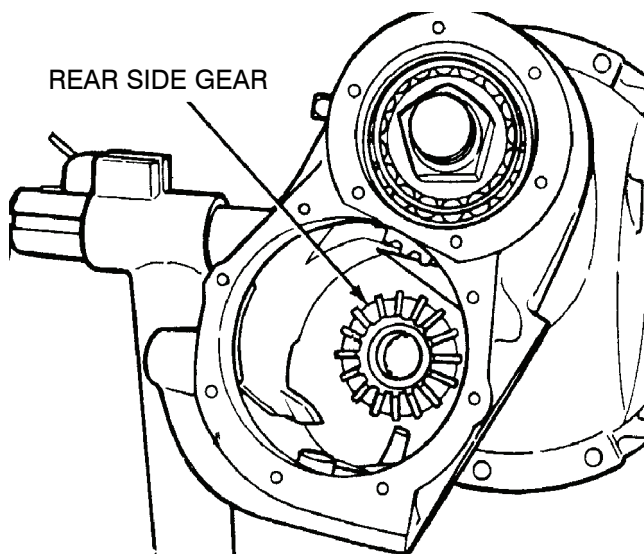

Figure 93.
- (1) Put the differential carrier in a repair stand so that the ring gear is toward the floor.
- (2) Install the rear side gear and bearing assembly through the clutch collar and into the differential carrier. Figure 93.